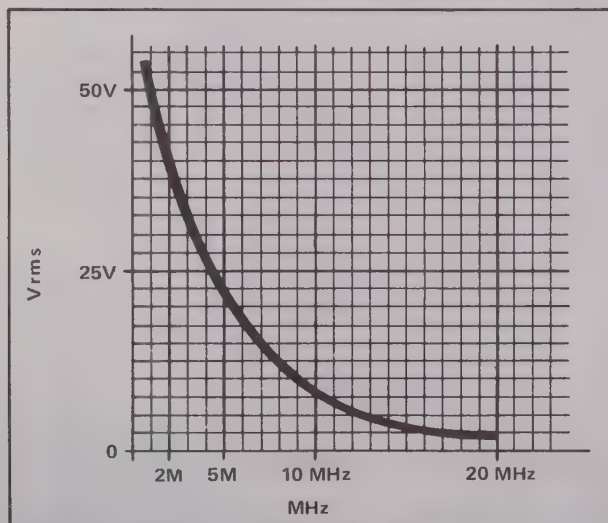

Figure 6-3. MAXIMUM RF SIGNAL LIMITS (VRMS) AT PROBE TIP
4. RF signals applied to the 80T-150 probe tip can also cause errors in temperature measurement. Figure 6-3 defines the rf signal limits that can be tolerated without degrading measurement accuracy.